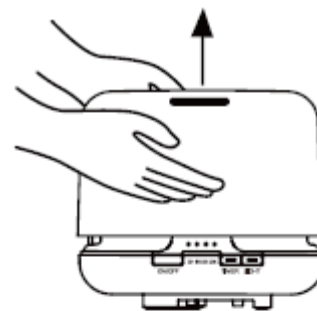

Fig 1
1. Place the appliance on a horizontal, stable and dry surface where it will be used (bedside table) and lift off the top cover. **Fig. 1 (FIG1)** Do not place a tablecloth or other textile under the appliance as it may block the air vent.